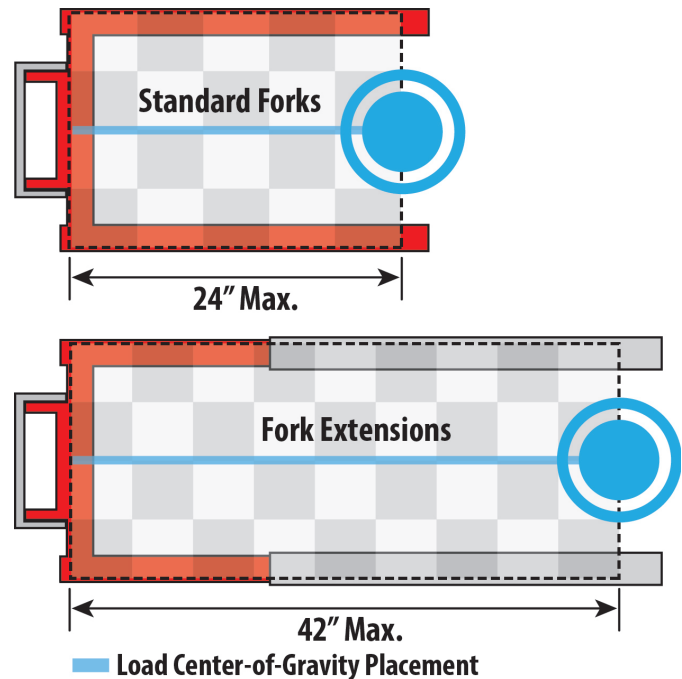

Figure 4-1: Center of Gravity Load Placement Zone
- Place the load center of gravity within the maximum placement range as shown in Figure 4-1.
Make sure the load center of gravity (COG) is centered between the lifting fork arms. The maximum distance for the load COG from the front of the carriage is 24-inches. For distances greater than 24-inches, you must use the JET fork extensions accessory. The maximum load COG distance using the JET fork extensions is 42-inches. See Figure 4-1.
- Center the load center of gravity between the lifting fork arms as shown in Figure 4-1.
- Place the load center of gravity as close to the carriage as possible and within the load placement zone as shown in Figure 4-1.
- Keep the load center of gravity within the maximum placement range as shown in Figure 4-1.